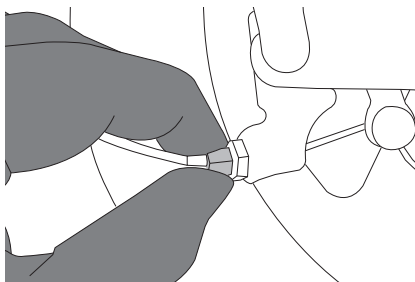

Figure 11
- The brake adjustment on the rear wheel tightens the cable when you loosen the barrel adjuster. This will engage the brake quicker. Loosen the lock nut and turn the barrel adjuster counterclockwise. Re-tighten the lock nut. See Figure 11.